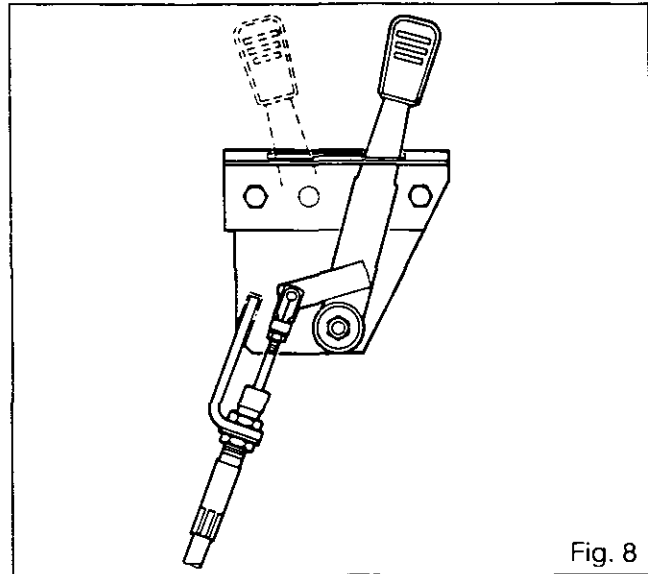

Fig. 8
- a) internal control via cable (Figs. 8 and 9).